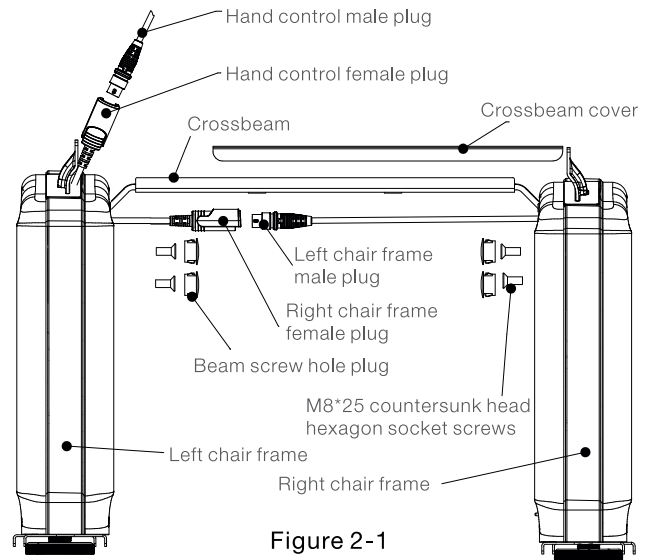

Figure 2-1
Step 1: Firstly, use M8\*25 countersunk head hexagon socket screws (6pcs) to connect the crossbeam with the left and right chair frame and lock it tight. And use the crossbeam screw hole plug (6 pieces) to plug the mounting holes. As shown in Figure 2-1 below.